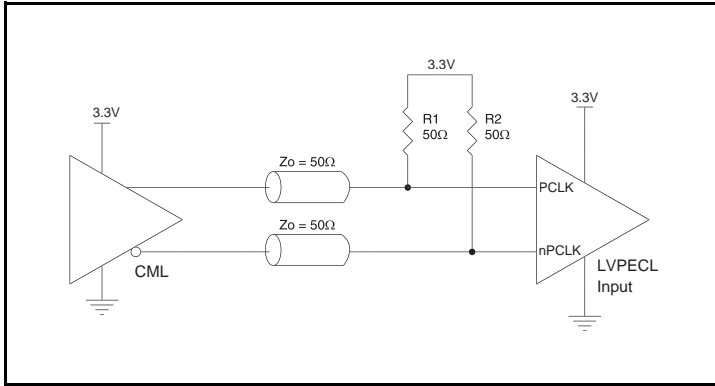

**Figure 1B. Alternative DC Coupling a Single LVC MOS Input to the IDT8SLVP1104I**
A practical method to implement  $V_{th}$  is shown in *Figure 1B* below. The reference voltage  $V_{th} = V_1 = V_{CC}/2$ , is generated by the bias resistors  $R_1$  and  $R_2$ . The bypass capacitor ( $C_1$ ) is used to help filter noise on the DC bias. This bias circuit should be located as close to the input pin as possible.
*Figure 1B* shows a way to attenuate the PCLK input level by a factor of two as well as matching the transmission line between the LVC MOS driver and the IDT8SLVP1104I at both the source and the
Though some of the recommended components of *Figure 1B* might not be used, the pads should be placed in the layout so that they can be utilized for debugging purposes. The datasheet specifications are characterized and guaranteed by using a differential signal.